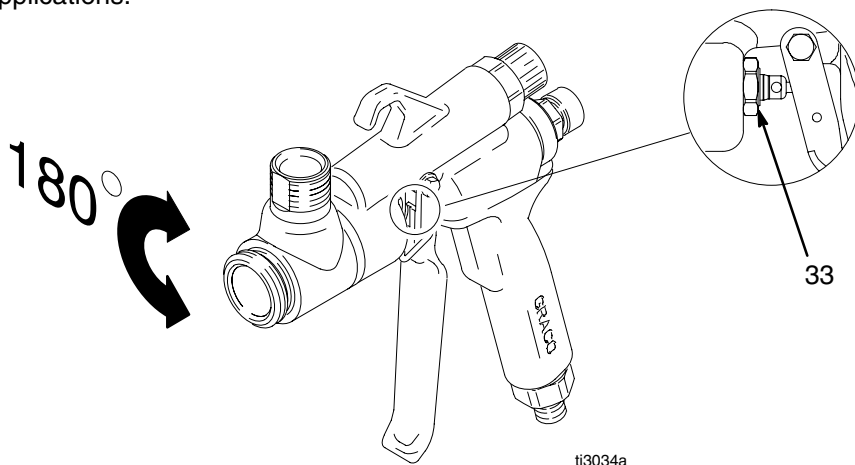

Fig. 8
1. Fig. 8. Loosen nut (33).
2. Pull gun head (8) and rotate 180°.
3. Push gun head (8) toward gun body (13) and tighten nut (33).